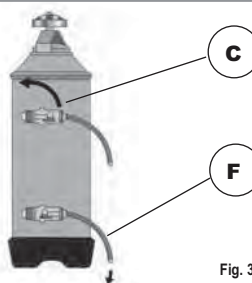

Fig. 31
- 2) Put the cap back on and reposition lever C moving it towards the left (Fig. 31) and allowing tube F to discharge the salty water until it has been eliminated and the water becomes fresh again (about half an hour).